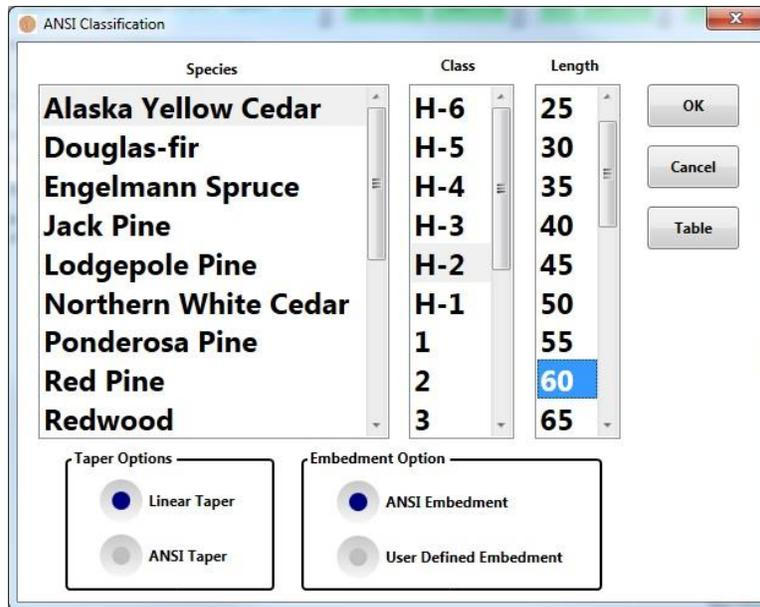

Figure 3-15. ANSI Classification
- *ANSI* - When the **ANSI** button is pressed, the ANSI Classification dialog appears as shown in Figure 3-15. The ANSI Classification data is